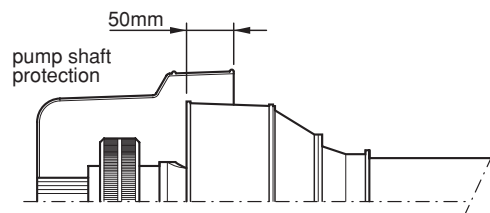

Fig. 8
- Do not step on the shaft protection. A torque limiting device is allowed on the drive side. In all cases, the protection must overlap the cardan shaft by at least 50 mm (Fig. 8).